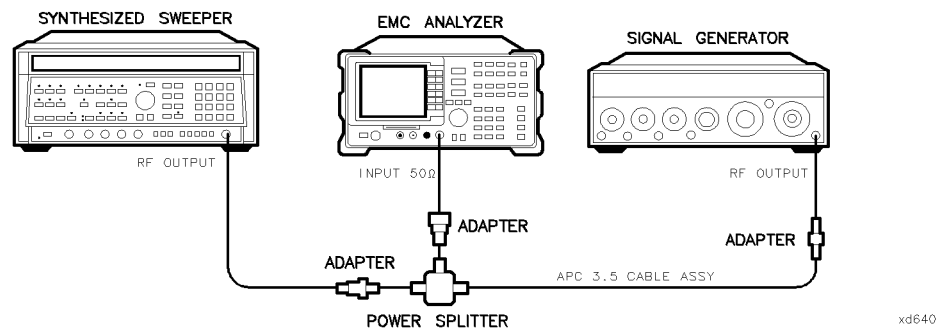
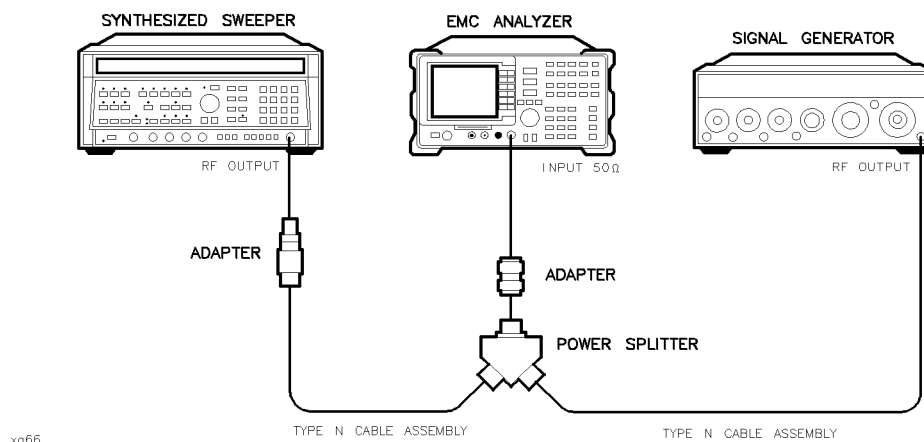

Figure 2-10.
Figure 2-11. Frequency Span Readout Test Setup, HP 8594EM
1. Connect the equipment as shown in Figure 2-10 (Figure 2-11 for HP 8594EM).